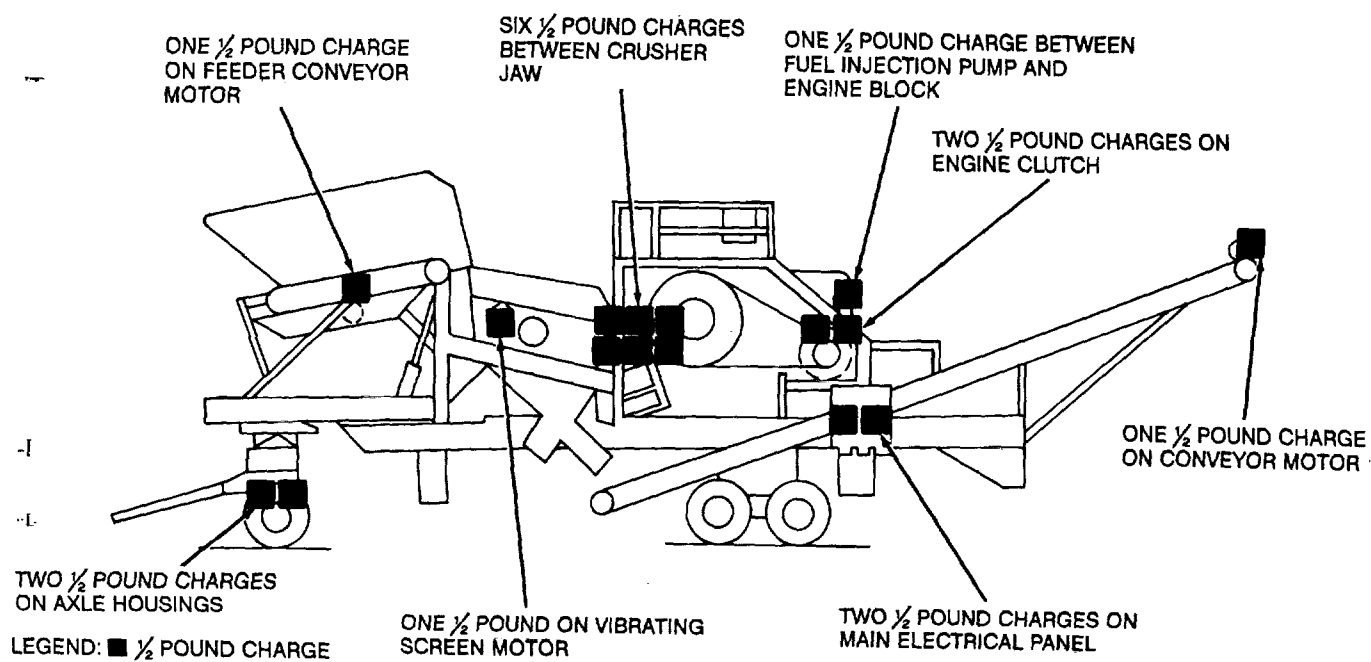

Figure 62. Placement of demolition charges.
- (1) Drain the engine.
- (2) Drain all gear housings.
- (3) Drain hydraulic tank.
- (4) Throw sand, mud, and other foreign substances into the oil filter openings and engine crankcase.
- (5) Drain the cooling system.
- (6) Throw dirt or sand into the radiator and fuel tank.
- (7) Operate the engine at full speed until failure occurs.
a. Explosives. Place as many of the charges shown on figure 62 as the situation permits and detonate them simultaneously with a detonating cord and a suitable detonator.